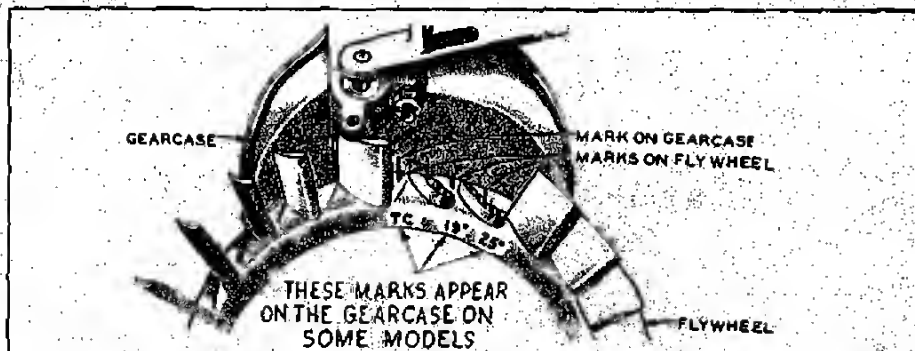

FIG. 40--IGNITION TIMING MARKS
2. Crank the engine over slowly by hand in the direction of crankshaft rotation until the "TC" mark on the flywheel and the mark on the gear cover are exactly in line. See Fig. 40.